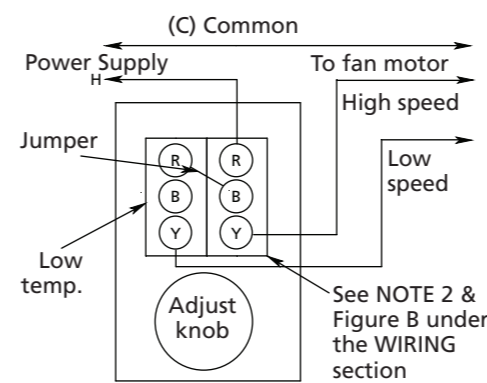
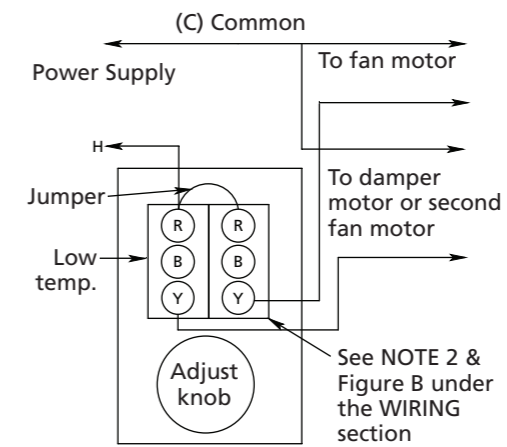

Figure 4 – Two-stage SPDT/SPDT Thermostats in Control of a Two-speed Ventilating Fan
Figure 5 – Two-stage SPDT/SPDT Thermostats in Control of a Single-speed Ventilating Fan and Volume Increase Damper Motor
Figure 4 shows wiring for controlling a two-speed ventilating fan. When the control element reaches the knob settings, the low temperature switch starts the fan on low speed. If the ambient temperature continues to rise, the high temperature switch supplies power to the high-speed motor winding.
Figure 5 shows a typical SPDT/SPDT connection for a two-speed fan application. The damper motor will be energized when the temperature reaches the knob setting. If the temperature continues to rise, the fan motor will be energized by the high temperature switch.
3. Thermostats with SPDT/SPDT 2 Stage switching: If connection is similar to Figure 4, fan should start at approximately ambient temperature and should change to high speed, as the knob is turned counterclockwise to a lower temperature setting. If wiring is similar to Figure 5, the damper should open as the knob is turned counterclockwise (to lower temperature setting). The devices should act in reverse sequence when the knob is turned clockwise.